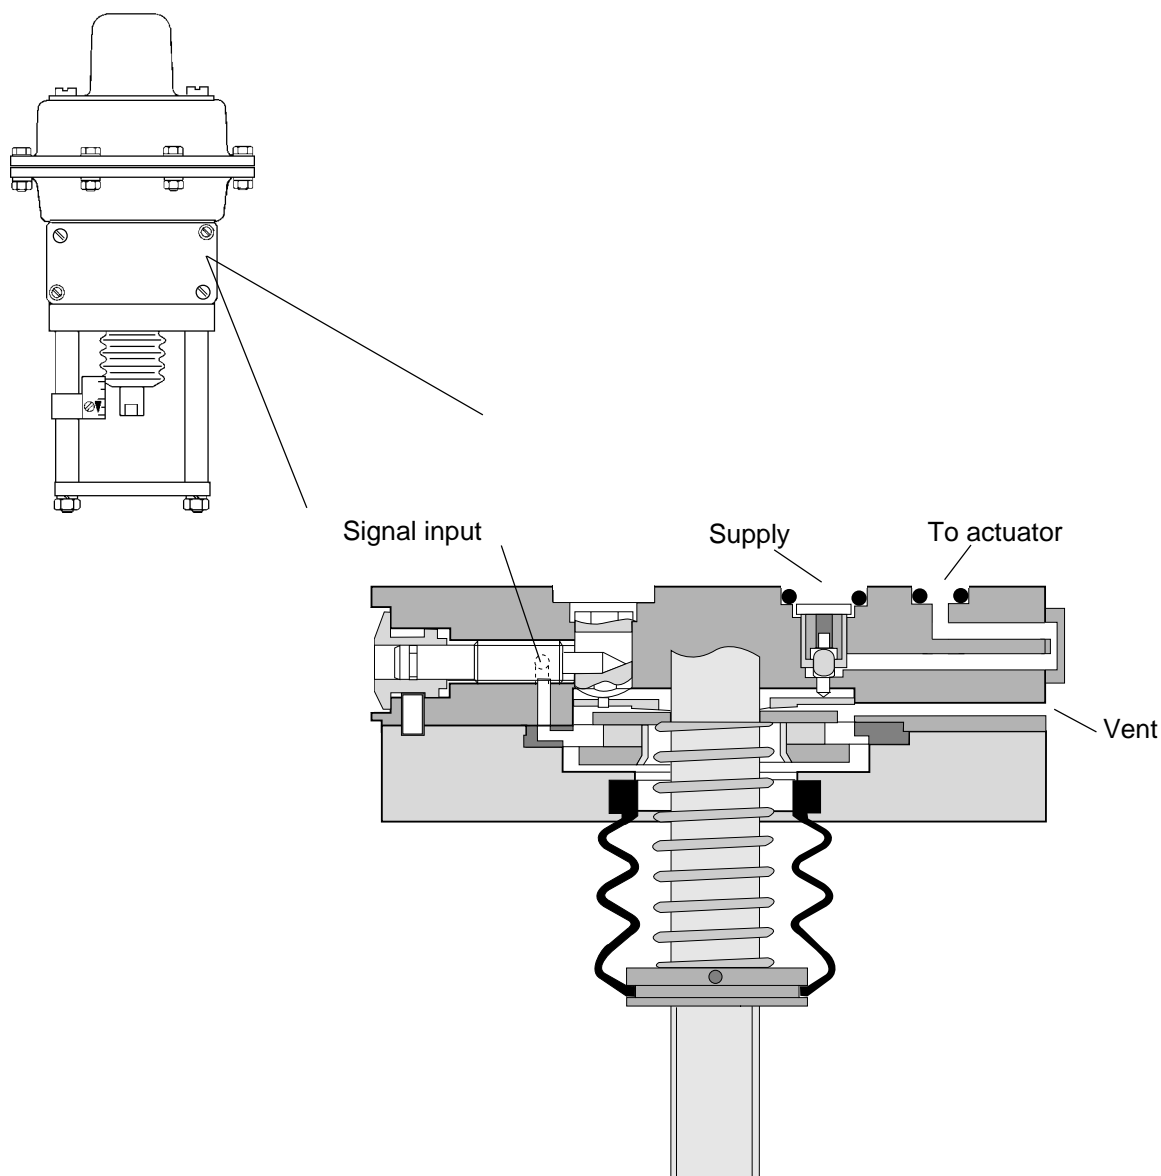

Fig. 1: P/P - Positioner
- 4.2.1 Examine gaskets for leaks and if necessary re-tighten bolts (see Fig. 1).
The actuator with integrated pneumatic positioner works on the force balance principal, which ensures that the position of the actuator stem is proportional to the value of the input signal (see figs. 1 and 2).